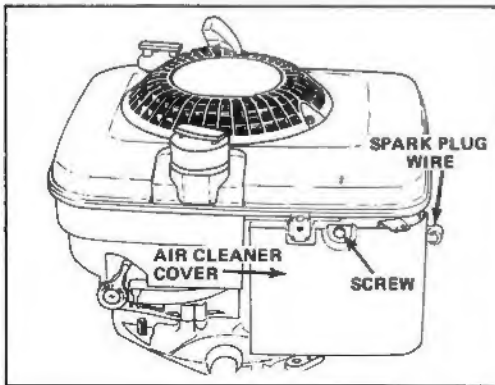

Figure 12
1. Stop engine and pull wire off spark plug (Fig. 12).
2. Remove screw securing air cleaner cover to engine (Fig. 12). Tilt cover down and clean thoroughly.